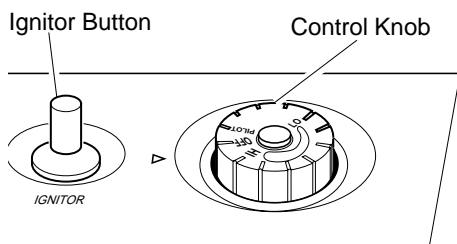
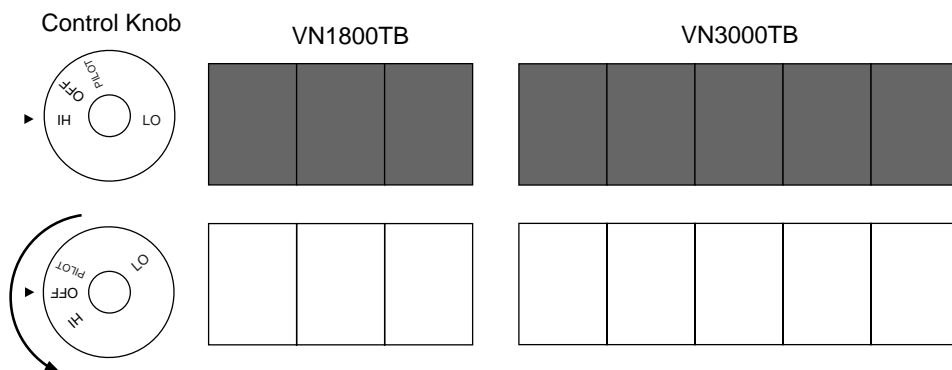

Figure 15 - Control Knob In The OFF Position
Figure 17 - Burner Patterns
4. Wait five (5) minutes to clear out any gas. Then smell for gas, including near the floor. If you smell gas, STOP! Follow "B" in the safety information page 11, column 3. If you don't smell gas, go to the next step.
5. Turn control knob counterclockwise to the PILOT position. Press in control knob for five (5) seconds (see Figure 15).
**Note:** If pilot goes out, repeat steps 3 through 7. This heater has a safety interlock system. Wait one (1) minute before lighting pilot again.
8. Turn control knob counterclockwise to desired heating level. The main burner should light. Set control knob to any heat level between HI and LOW (see Figure 17).